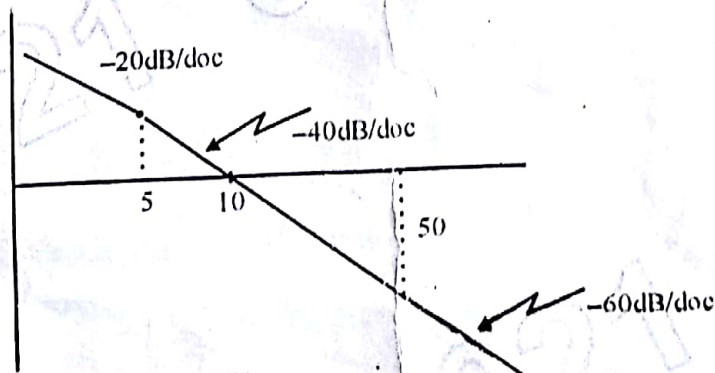

Fig. 10(b)
b) Find open loop transfer function of system having Bode magnitude plot as shown in fig. 10 (b)